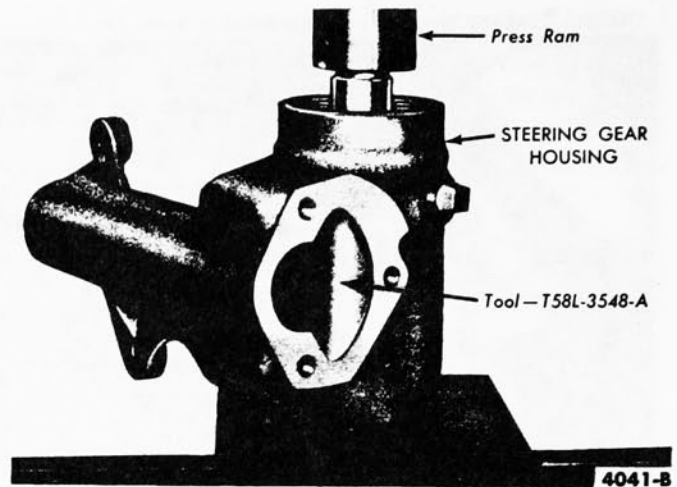

FIG. 9—Steering Shaft Lower Bearing Cup Installation
2. Press a new steering shaft lower bearing cup into the housing (Fig. 9).